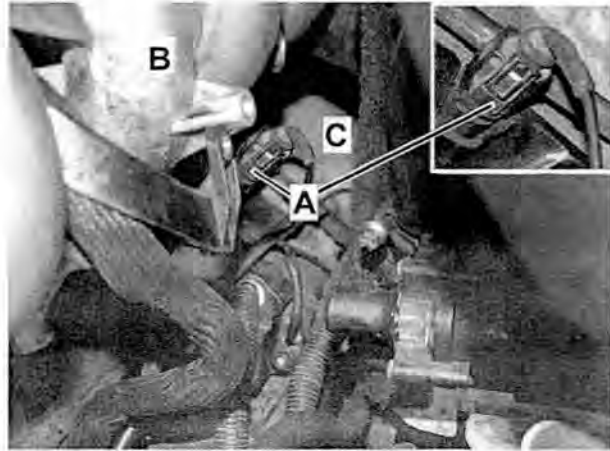

Figure 13
25. Disconnect crank angle sensor connector (A, Figure 13) from back of engine block.